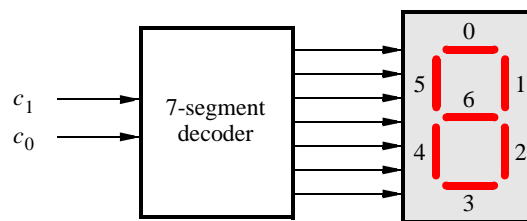

Figure 6. A 7-segment decoder.
Figure 6 shows a 7-segment decoder module that has the two-bit input c_1c_0 . This decoder produces seven outputs that are used to display a character on a 7-segment display. Table 1 lists the characters that should be displayed for each valuation of c_1c_0 . Three characters are included plus the ‘blank’ character, which is selected for code 11.
2. Create a Verilog module for the 7-segment decoder. Connect the c_1c_0 inputs to switches SW_{1-0} , and connect the outputs of the decoder to the $HEX0$ display on the DE1-SoC board. The segments in this display are called $HEX0_0, HEX0_1, \dots, HEX0_6$, corresponding to Figure 6. You should declare the 7-bit port